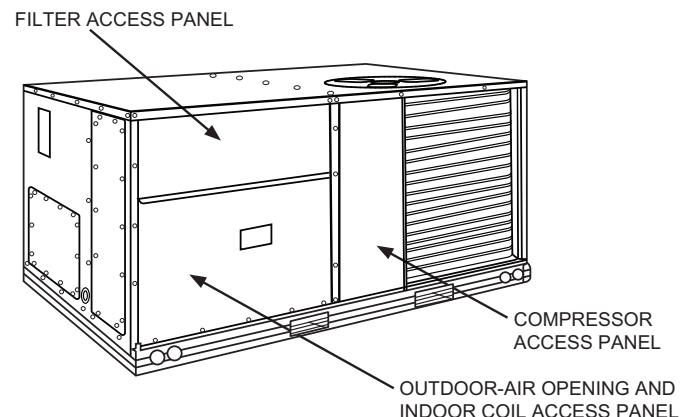

Fig. 2 — Typical Access Panel Locations
2. Remove the existing unit filter access panel. Raise the panel and swing the bottom outward. The panel is now disengaged from the track and can be removed. See Fig. 2. Set the filter door aside for re-installation later.
3. Remove the indoor coil access panel and discard. See Fig. 2.